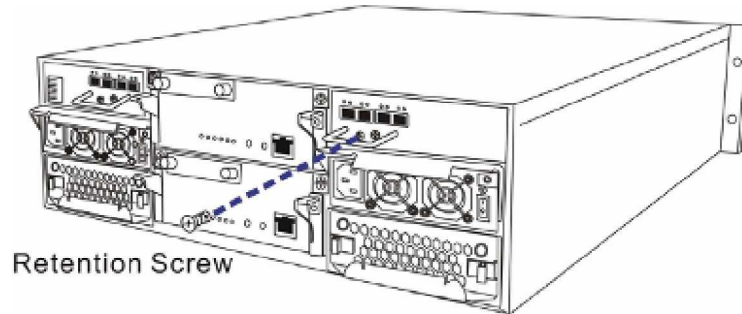

Figure 5-14: Loosening the Host Connection Module Hand Screw
**Step 2. Remove the host connection module from the chassis.** Loosen the two (2) hand screws by turning them counterclockwise. The retention screws are located on the host connection module rear panel. (See *Figure 5-14*)